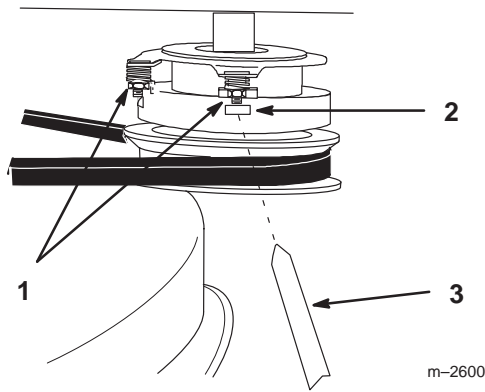

Figure 41
1. To adjust the clutch, tighten or loosen the lock nuts on the flange studs (Fig. 41).
2. Check adjustment by inserting a feeler gauge thru the slots next to the studs (Fig. 41).